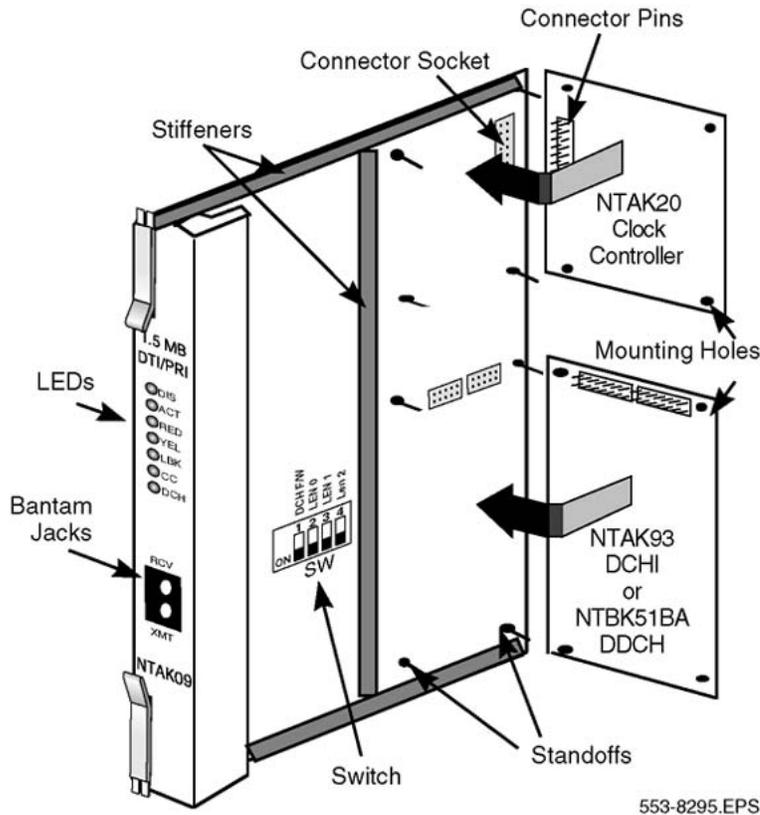

Figure 85: Daughterboard installation on the NTAK09
3. From an overhead view, with the daughterboard parallel above the NTAK09 and the connector pins aligned over the connector sockets, align the mounting holes on the daughterboard (Figure 85: Daughterboard installation on the NTAK09 on page 258) with the tops of the standoffs on the NTAK09.